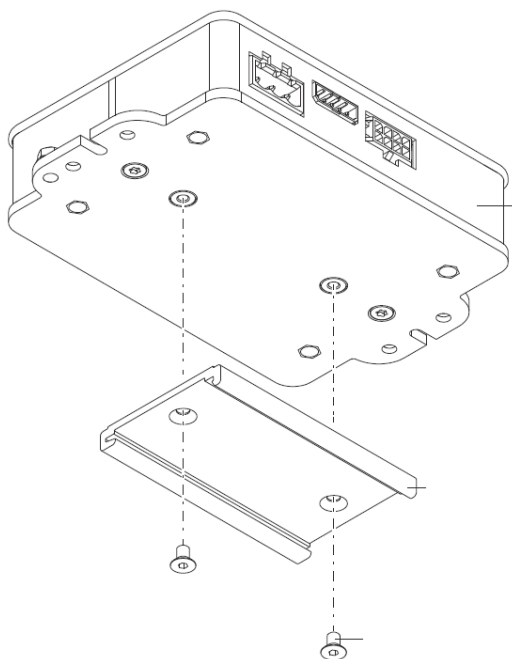

Figure 3: Top-hat rail clip mounting
- A top-hat rail can be used for the setup. The top-hat rail must be properly connected to the mounting plate. The two screw holes in the backplane of the Motion Controller can be used to attach a clip to. Usually no painting has to be removed, since a metal connection is provided via these screw holes (see figure 3).